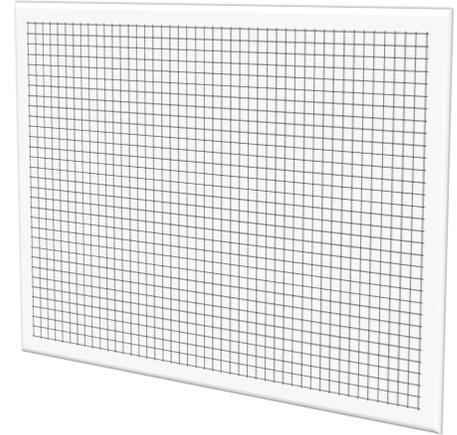

Figure 3
Machine vision systems consist of a matrix of photosensitive elements called “pixels” (Figure 3). When this matrix is superimposed upon the “world,” spatial references can be calculated with proper calibration. The Field Of View (FOV) of the sensor is determined by the Working Distance (WD) and the lens. A vision sensor can acquire an image of an individual bacterium or an entire galaxy, depending upon how it is configured.